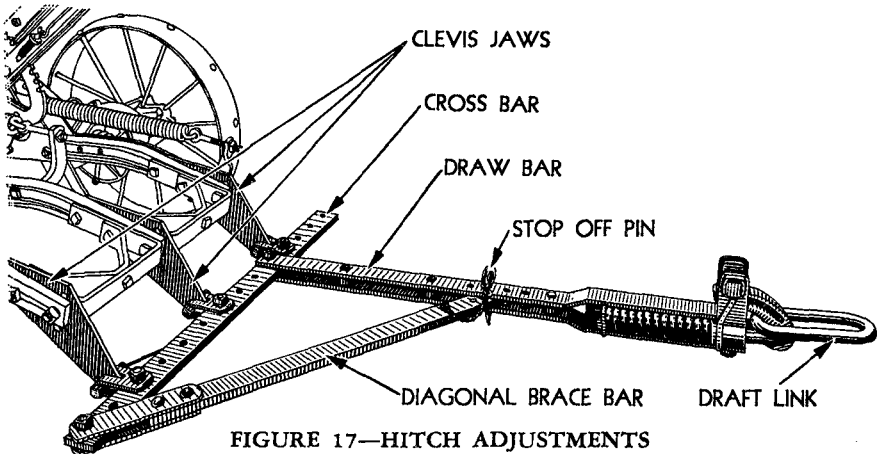

FIGURE 17—HITCH ADJUSTMENTS
b. Horizontal hitch adjustment. This adjustment is provided so the plow can be hitched to pull straight and in proper working position with each bottom cutting a furrow slice 14 inches wide behind prime mover. Whether opening the land or doing regular plowing, the drawbar should always be approximately parallel to line of travel. To adjust drawbar, move right or left on cross bar, and then adjust diagonal brace bar to proper position, and lock with stop off pin. (Figure 17.)